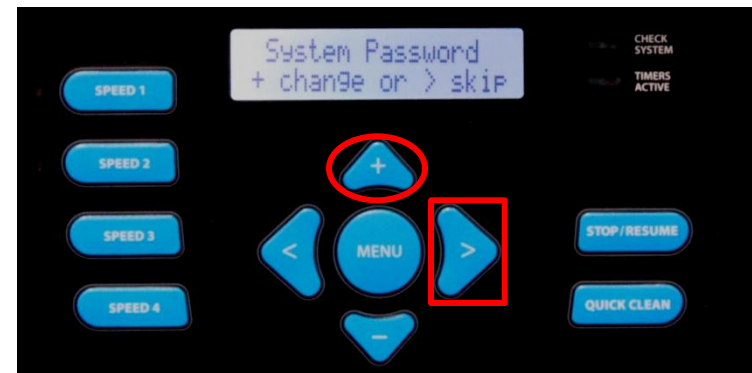

Figure 79
3. At this point (fig 79) you will be prompted to change the password by pressing the **+** button or skip by pressing the **>** button.